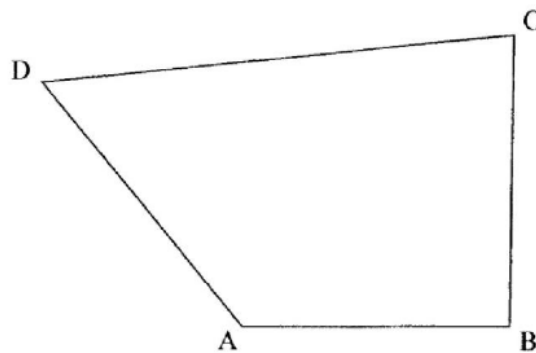

Figure 3
6. Enlarge **Figure 3** (ABCD) in the ratio of 5:7